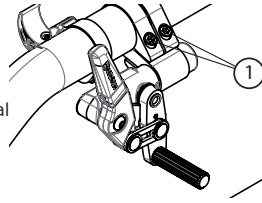

Fig. 38
- Loosen screws (1) (Fig. 38).
- Tighten screws (1) to a snug fit. Final tightening should be done manually.